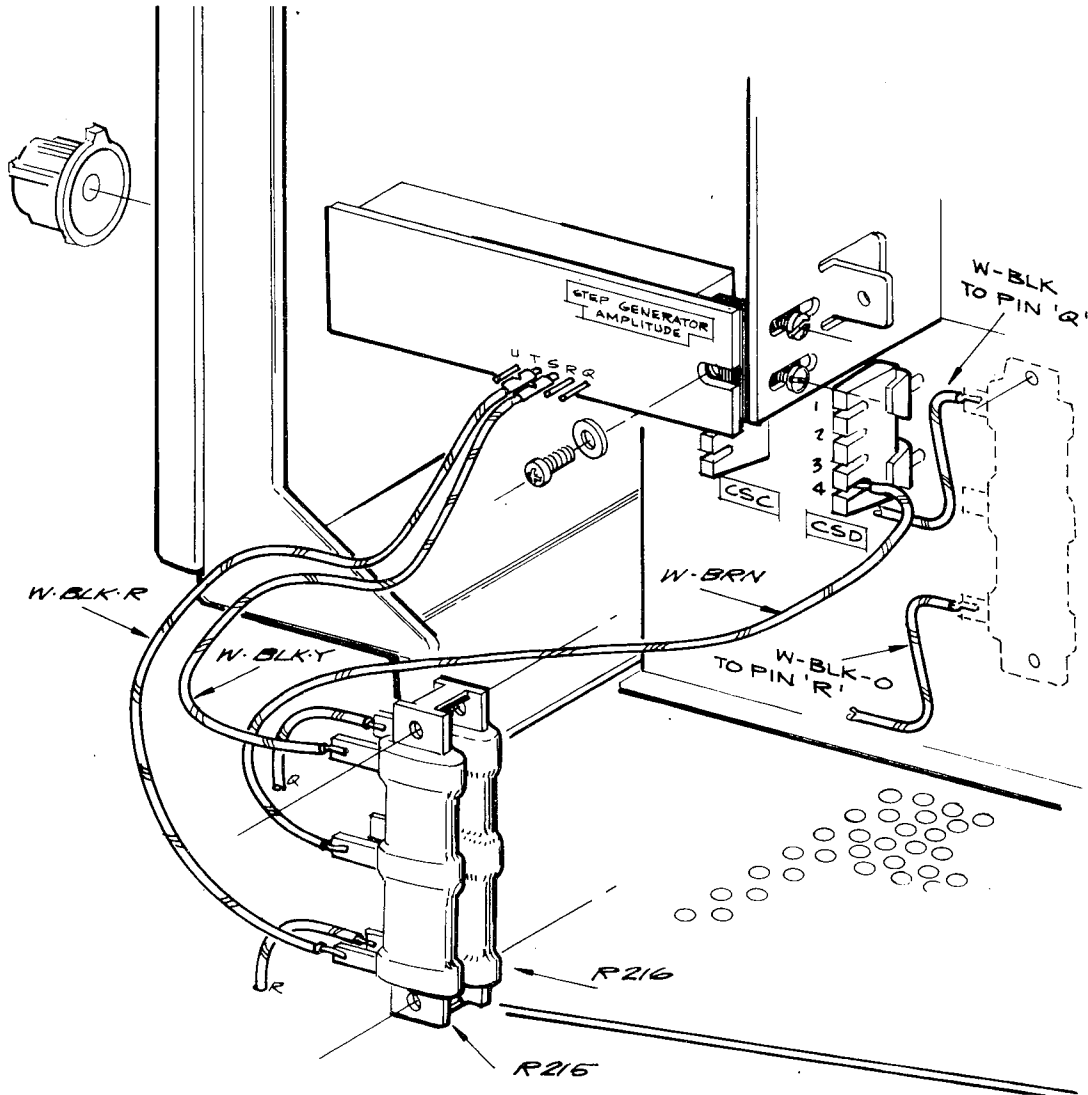

Fig. 1. Step Generator Amplitude circuit board and cam switch assembly replacement. Location of and wiring for R215 and R216 also shown.
Refer to Fig. 1 when replacing the Step Generator Amplitude circuit board and cam switch assembly and the current setting resistors, R215 and R216.
- ( ) 24. Install the new resistor assembly, as shown in Fig. 1, and secure with the hardware removed earlier. If new hardware is needed, the two 6-32 x 1 inch screws, which were used to hold the resistors together, or the two provided 10-32 nuts may be used.